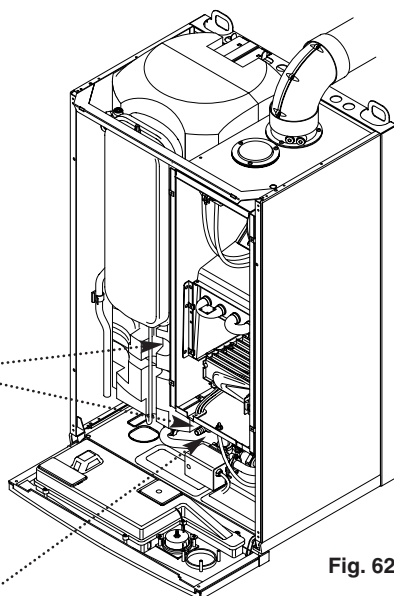

Fig. 62
11.8 Temperature Sensors (Figs. 62 & 63)
11.9 Overheat Thermostat (Figs. 62 & 64)